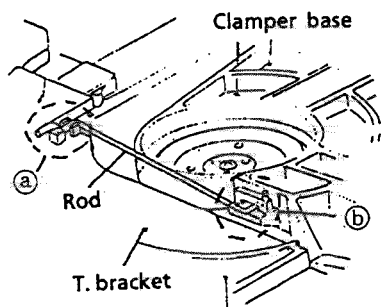

Fig. 2-2
2. Remove the rod from both ends' hooks which are secured on T.Bracket ② and clamper base ③. (See Fig. 2-2.)